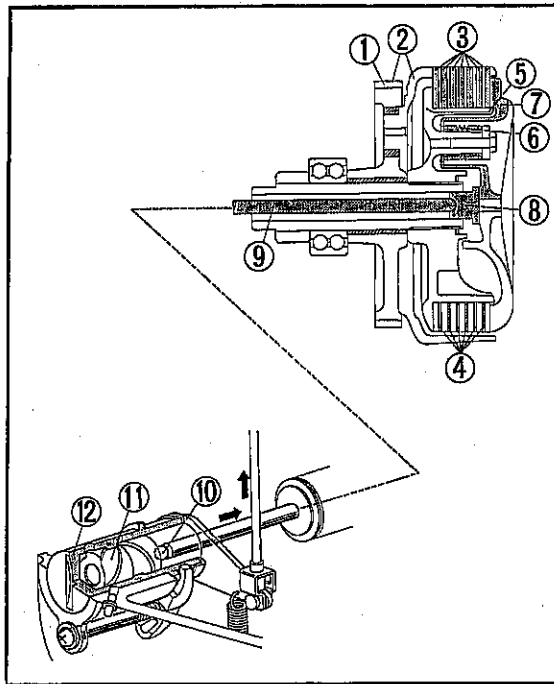

Fig. 334
<p>Refer to Fig. 334 on page 115.</p> <p>The clutch connects and disconnects the engine from the transmission.</p> <p>As shown in Fig. 334, the clutch plates ④ ("drive plates"), which are capable of sliding axially on the clutch center ⑤, are "sandwiched" between the friction discs ③ ("driven discs") engaged in the clutch outer ②. In normal engaged condition of the clutch, the pressure plate ⑦, upon which the clutch springs ⑥ force is acting, presses the stacks of the discs and plates against the clutch outer. Under this condition, the engine power is transmitted through the primary drive gear ①, clutch outer, friction discs, plates and clutch center to the transmission main shaft. As the clutch lever is squeezed to disengage the clutch, the clutch lifter ⑩, connected to the clutch cable, is rotated and forced out. This clutch ball force is transmitted through the #10 steel ball ⑩, clutch lifter rod ⑨ and clutch lifter joints piece ⑧ to the clutch pressure plate to compress the clutch springs producing clearance between the friction discs and plates. Now the face pressure on the friction surfaces of the power transmitting parts is reduced to zero, resulting in clutch disengagement.</p>	<p>Refer to Fig. 335 on page 115.</p> <p>As shown in the figure, the clutch plates ④, which are capable of sliding axially on the clutch center ⑤, are sandwiched between the friction discs ③ engaged in the clutch outer ⑦. In normal engaged condition of the clutch, the pressure plate ⑩, upon which the clutch springs ⑥ force is acting, presses the stacks of the discs and plates against the clutch outer. Under this condition, the engine power is transmitted through the primary drive gear, clutch outer, friction discs, plates and clutch center to the transmission mainshaft. As the clutch lever is squeezed to disengage the clutch, the clutch arm connected to the clutch cable operates and the clutch lifter cam ① rotates to cause the clutch adjusting lever ② to be forced against the clutch lifter rod ③. This force is transmitted through the clutch lifter plate ④ to the clutch center, producing clearance between the friction discs and plates. Now the face pressure on the friction surfaces of the power transmitting parts is reduced to zero, resulting in clutch disengagement.</p>